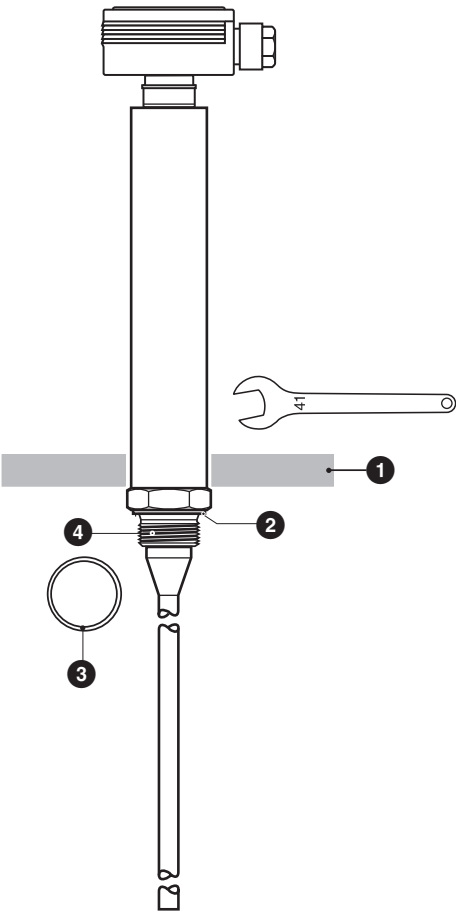

Fig. 3
2. Place joint ring ❸ onto seating surface ❷ of the electrode, **Fig. 3**.